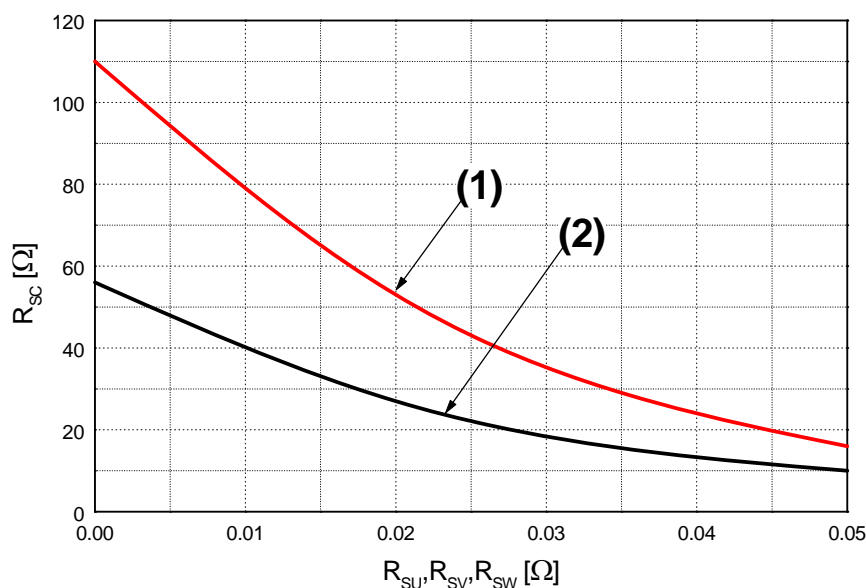

Figure 6. R_{SC} Variation by Change of Shunt Resistors (R_{SU}, R_{SV}, R_{SW}) for Short-Circuit Protection
- Short-circuit protection is functioning only at the low-sides. It would be recommended that the value of the external sensing resistor (R_{SC}) should be selected around 56 Ω in order to make the SC trip-level of about 45A at the shunt resistors (R_{SU}, R_{SV}, R_{SW}) of 0 Ω. For the detailed information about the relationship between the external sensing resistor (R_{SC}) and the shunt resistors (R_{SU}, R_{SV}, R_{SW}), please see Figure 6.